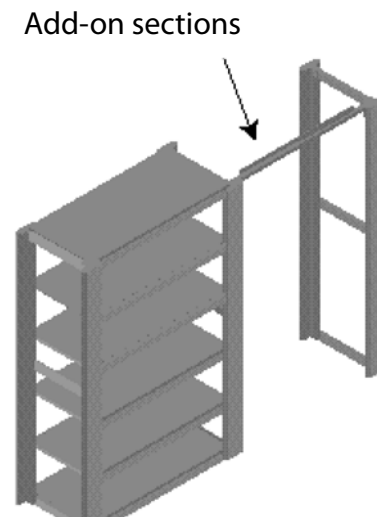

Figure 5
2. Add two more shelf supports at the next shelf location, place another shelf; and continue up the section. Always seat each shelf support, as it is installed by tapping each end with a rubber mallet. Figure 5.
3. Add-On sections are installed by using keyhole slots on the common center T-uprights. Figure 5.